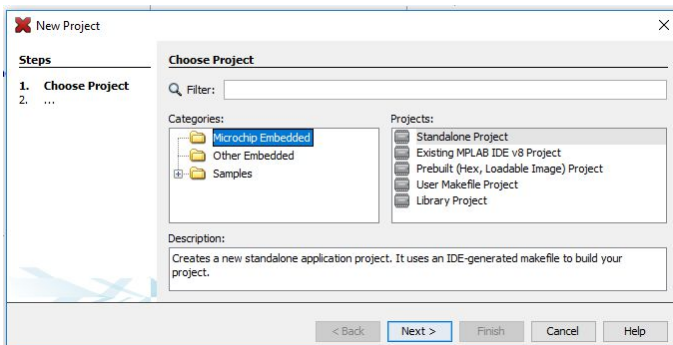

Figura 7
Step 1_Choose Project (figura 7)